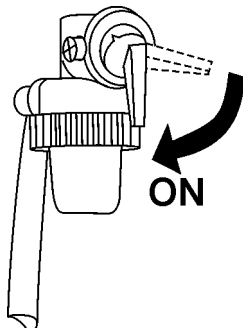

Figure 12. Engine Fuel Valve Lever (ON Position)
1. Place the engine **fuel valve lever** (Figure 12) to the "ON" position."